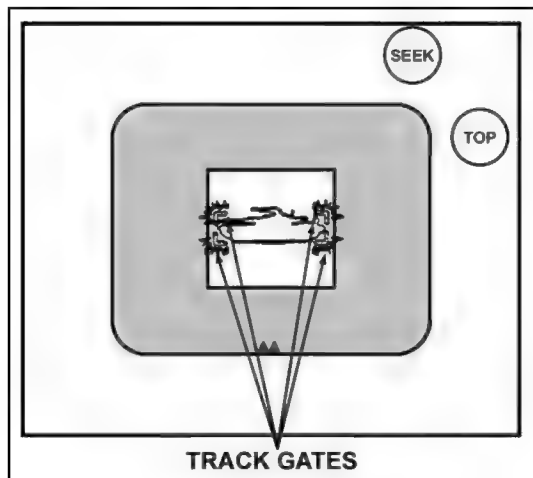

Figure 4-26. Position track gates on target.
(1) **Tanks and Turretless Targets.** To ensure a good seeker lock-on, keep the target's center of mass (the tank's hull but not the gun barrel) centered in the track gates and adjust the track gates as close to the tank's edges as possible (Figure 4-26). To increase the probability of a hit, place the track gates around the hull only. Do not include the turret on flank targets.